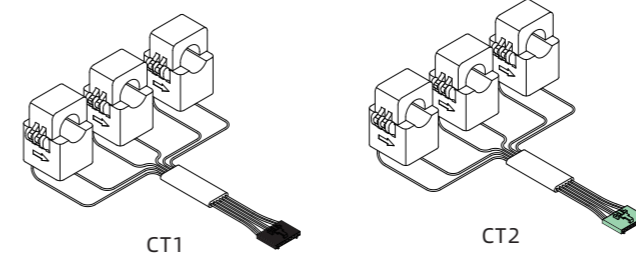

Figure 1
- Pay attention to distinguish the two groups of CT. The black terminal is connected to the first group of CT, and the green terminal is connected to the second group of CT. As shown in Figure 1 below.